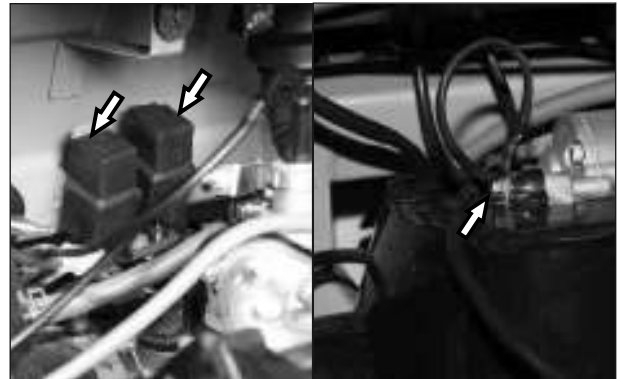

Fig. 5.83
- Disconnect the starter relay from cabin. (Fig. 5.83)
- Loosen and remove 1 no. hexagonal flange bolt (M6 x 25) of earth cable from cowl LH and separate the earth cable. (Fig. 5.83)